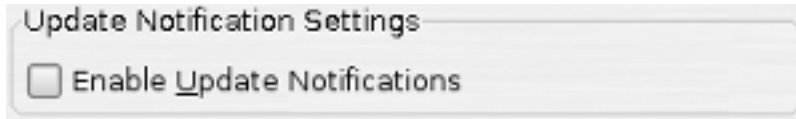

Figure 11.9. Update Notification Settings
2. Under the "Update Notification Settings" section to disable update notification uncheck the checkbox labeled "Enable Update Notifications" see Figure 11.9, "Update Notification Settings".